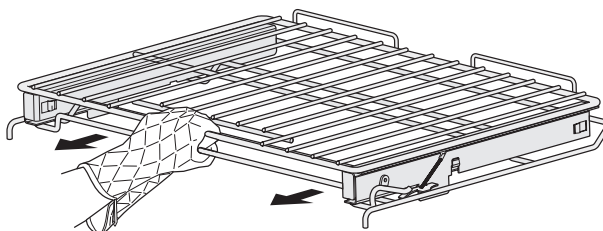
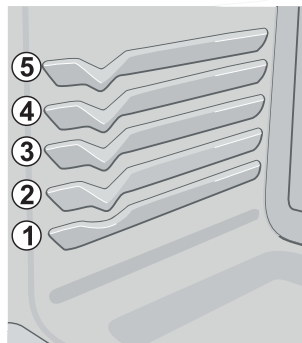

Figure 2 - Pull the rack away from the oven
Figure 1
Figure 1 - Hold both upper and lower rack portions. Using both hands, lift up the front of the rack slightly and continue to pull the rack away from the oven (Figure 2). Be sure to grasp both upper and lower rack portions together when removing or handling the glide rack.
- If using two racks, place the oven racks in positions 1 (glide rack) and 4 (flat rack) Figure 1 and position cookware as shown in Figure 2.